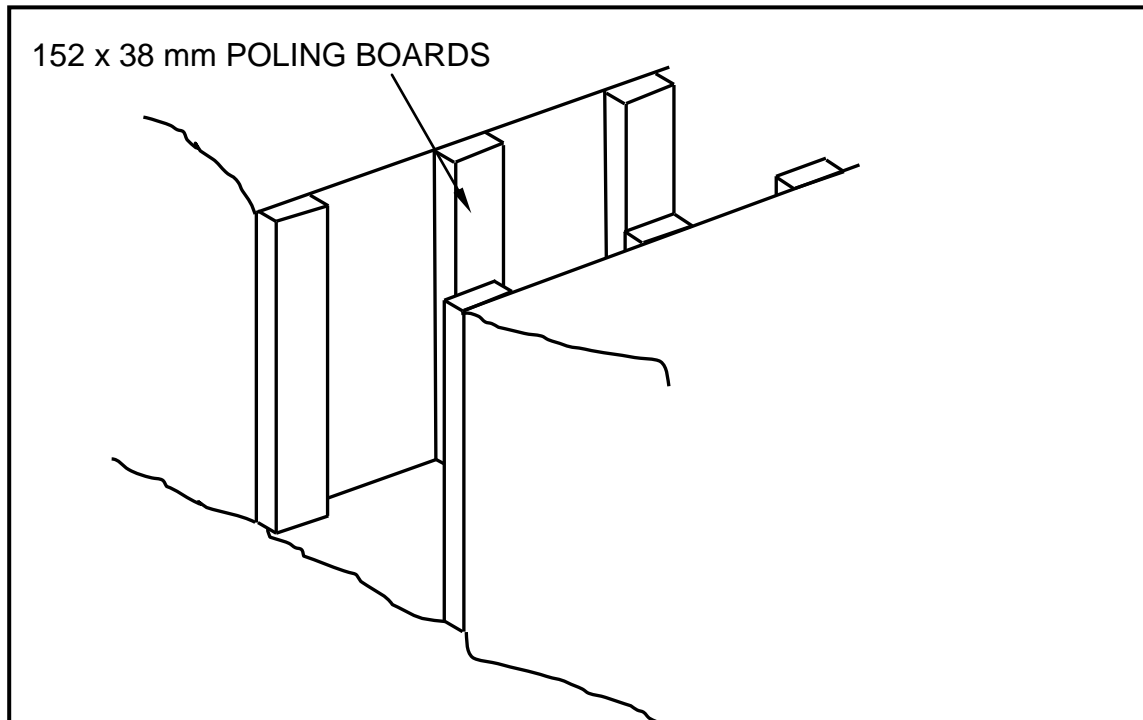

FIGURE 4.4
- 4.4 FIGURE 4.4 below shows the incomplete shuttering for a shallow trench in firm soil.
- 4.4.1 Identify any TWO members that have been omitted in FIGURE 4.4 and predict the likely consequence if these members are omitted during excavations. (3)